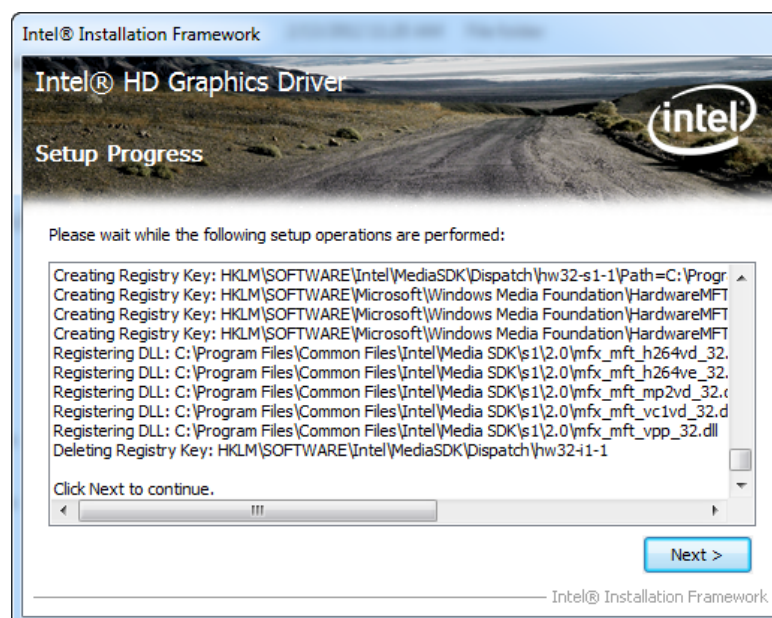

Figure 6-13: Graphics Driver Setup Operations
Step 14: **Setup Operations** are performed as shown in Figure 6-13.